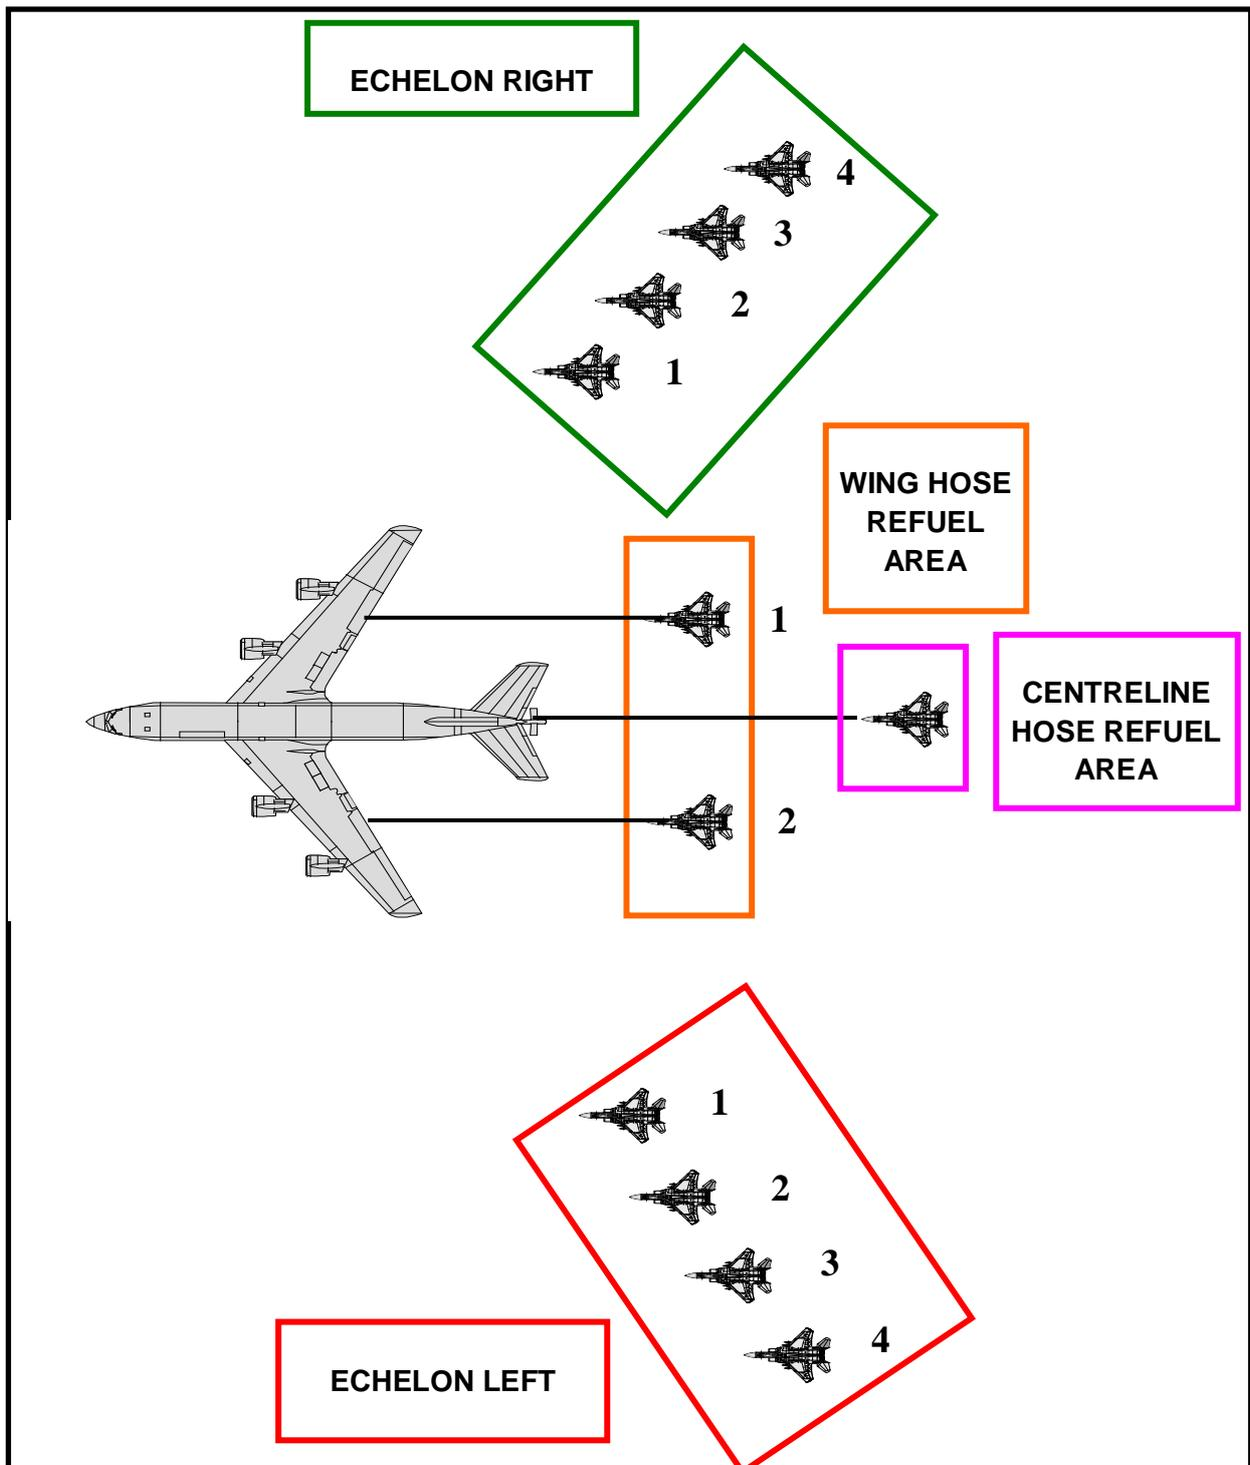

Figure 2-2. Diagram of Key Areas Around Tankers - Boom and Probe and Drogue with an Aft Observer
- (2) **Tankers With Refuelling Observers.** Where the tanker has rearward facing observers or boom operators, the Echelon Left position is behind the wingline of the tanker. See Figure 2-2.
- a. **Join – Echelon Left Position.** Receivers arrive from tanker's left side and form up in the Echelon Left position as described in para. 2.5. See Figures 2-3A, 2-3B and Figure 2-2 as appropriate to the tanker.
- b. Probe equipped receivers should adopt formation positions appropriate to a tanker with an observer in the rear of the tanker (Figures 2-2 and 2-4).